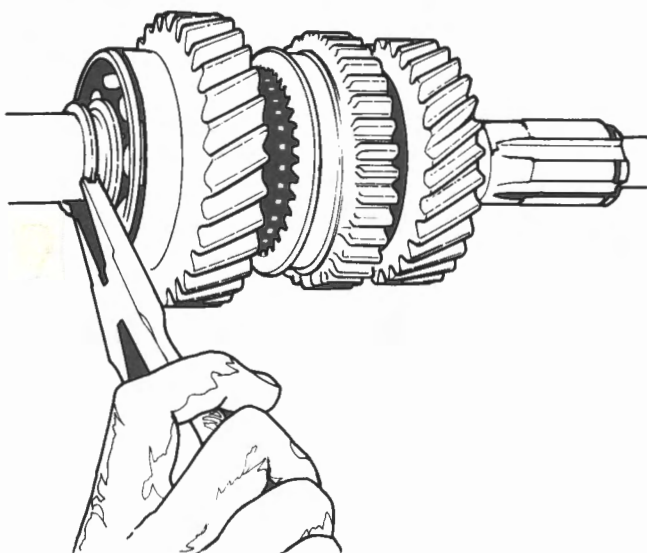

Fig. L-28
- 27 Remove the rear bearing snap ring. Fig. L-28.